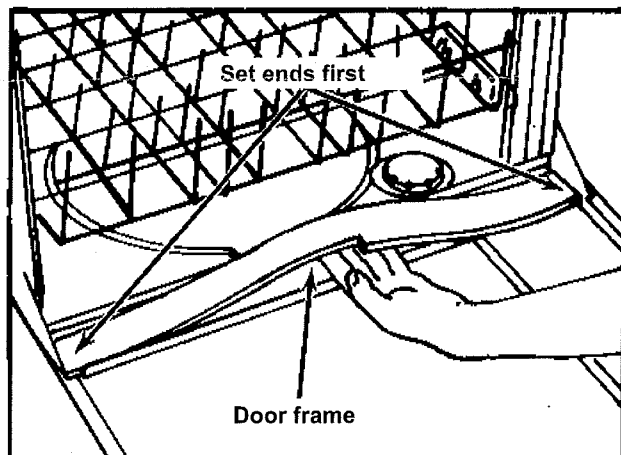

Figure 2
4. Put one end of gasket in place as close to the outside edge of the door frame as possible. After starting one end, hold gasket up in the middle. Now set the other end in place on door frame. See Figure 2.